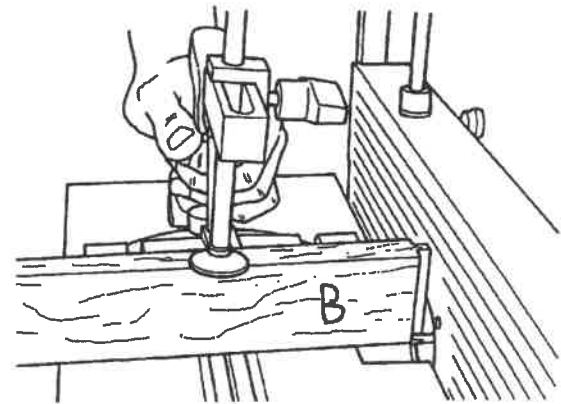

Fig. D-18
15. To get the pin in workpiece "B" flush with the end of workpiece "A" when assembled, you must trim off the underside of the pin. The router bit is already set at the proper height to do this. So turn on the Dust Collector and router, make the cut on the underside of the pin, as shown in Fig. D-18.